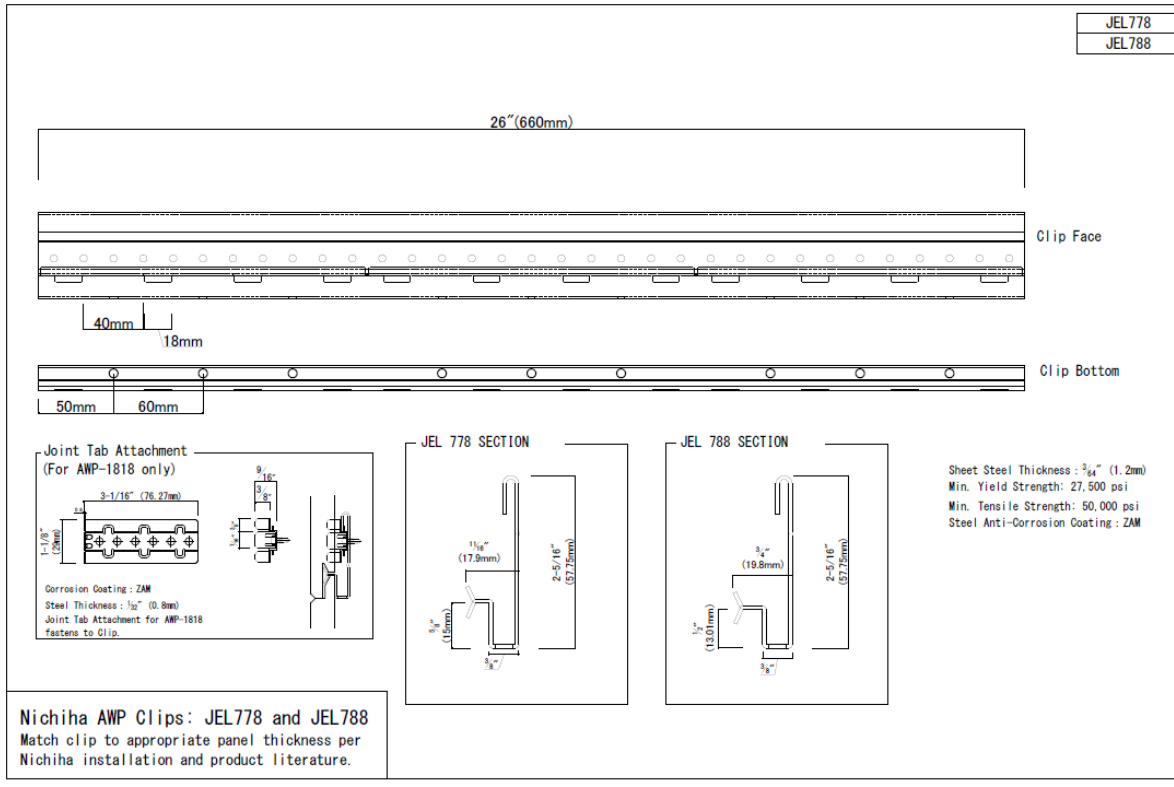
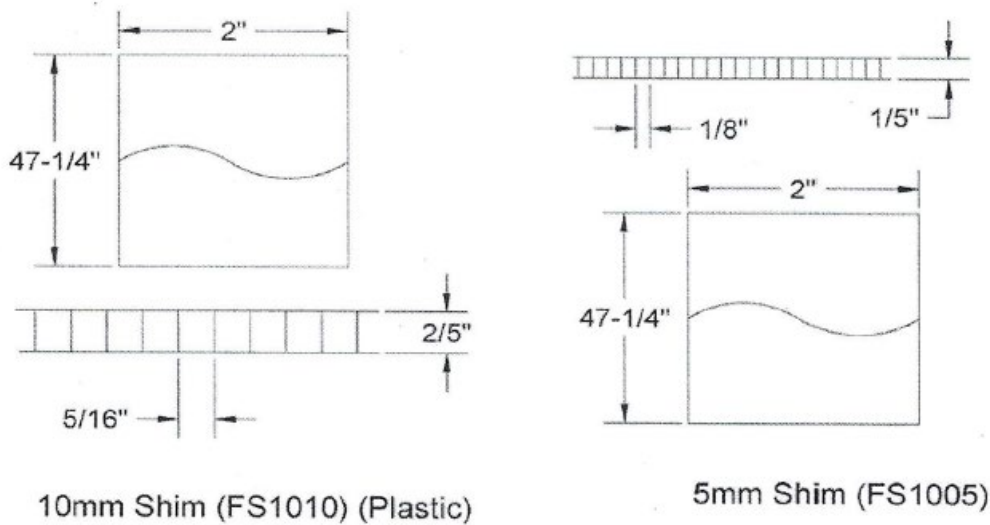

Figure 1 – Panel Clip Details
Figure 4 – Corrugated Shim Details
4.Refer to Fig. 1 through Fig. 4 for Nichiha Clip System Details.
- Refer to Figs. 1 through 6 for Nichiha Clip System Details.